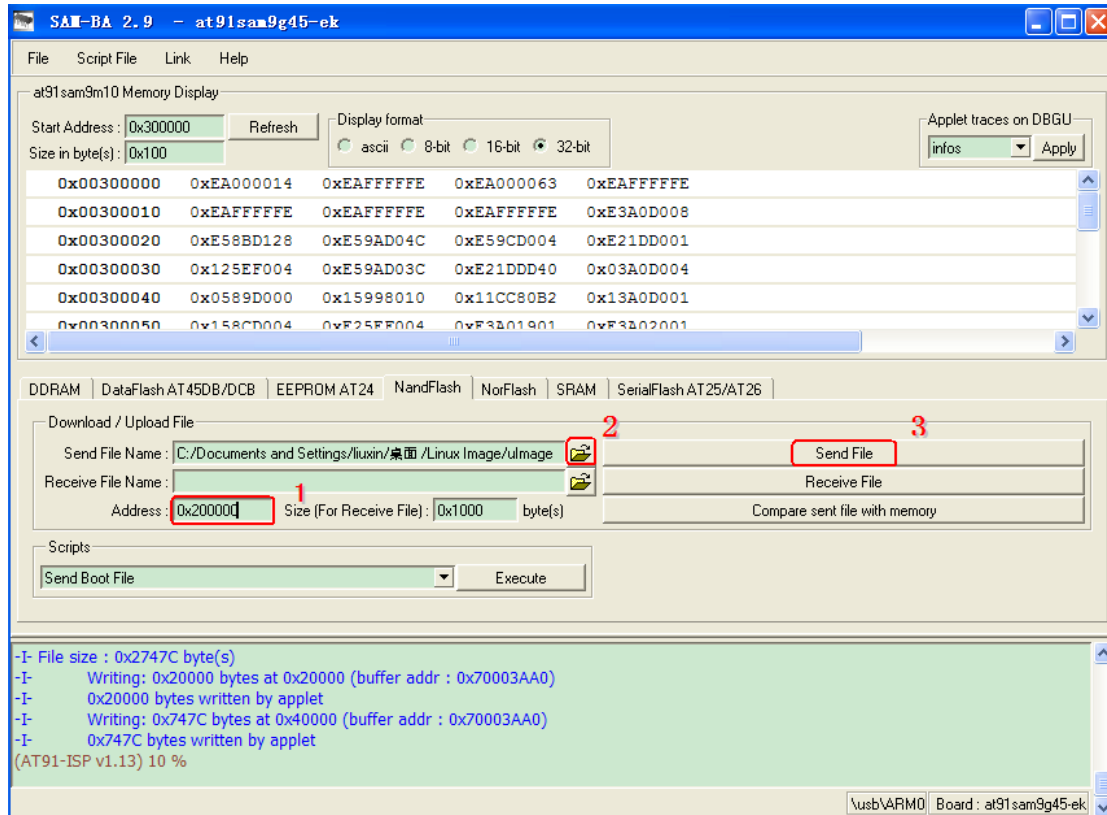

Figure 5-10
(7) Download Linux kernel ulmage to 0x200000. Refer to figure 5-10: